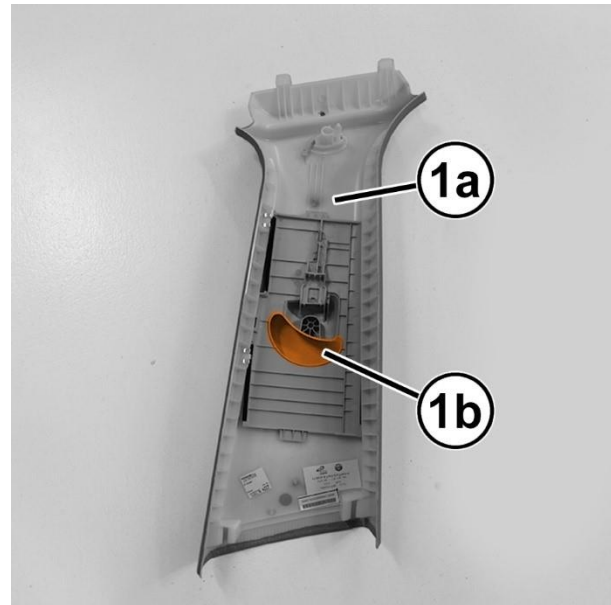

Figure 28 – B-Pillar Trim
16. Check that the B-pillar trim panel (1a) is not damaged (Figure 28).
17. Guide the seat belt through the slot (1b) in the B-pillar trim panel (1a) (Figure 28).